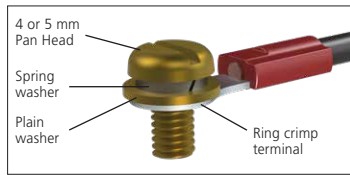

Fig. 7.5.1
**⚠ To ensure secure electrical connections, it is important that the requisite washers are used as shown in Fig 7.5.1. Failure to do so may result in connections working loose or screws not clamping down on ring crimp terminals. Spring washers must be compressed. Screw tightening torques must not exceed 1.5 Nm (1.1 lbf.ft).**